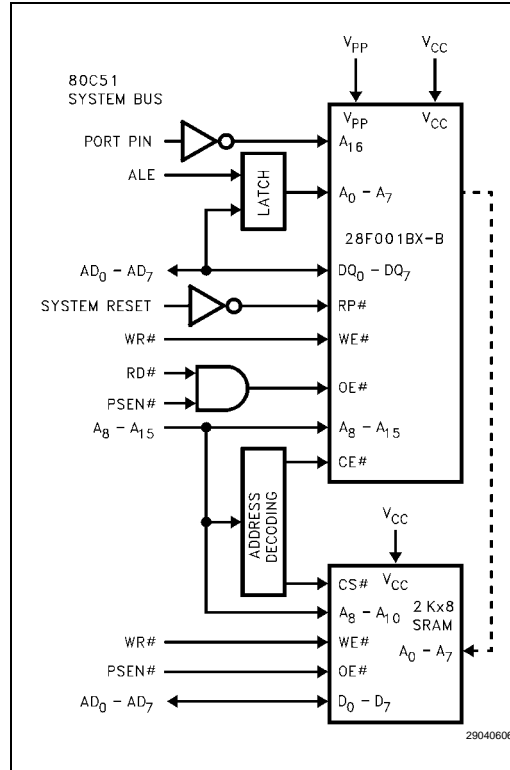

Figure 5. 28F001BX-B in a 80C51 System
-004	<p>Removed Preliminary classification. Latched address A₁₆ in Figure 5. Updated Boot Block Program and Erase section: "If boot block program or erase is attempted while RP# is at V_{IH}, either the Program Status or Erase Status bit will be set to '1,' reflective of the operation being attempted and indicating boot block lock."</p> <p>Updated Figure 11, 28F001BX Erase Suspend/Resume Flowchart. Added DC Characteristics typical current values. Combined V_{PP} Standby current and V_{PP} Read current into one V_{PP} Standby current spec with two test conditions (DC Characteristics table). Added maximum program/erase times to Erase and Programming Performance table. Added Figures 13–16. Added Extended Temperature proliferations.</p>